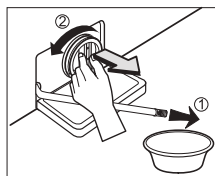

Fig.14
- Carefully unscrew the coin-trap cover. **Warning: Some residual water will flow out. (Approx. 1 Cup)** (Fig.14)